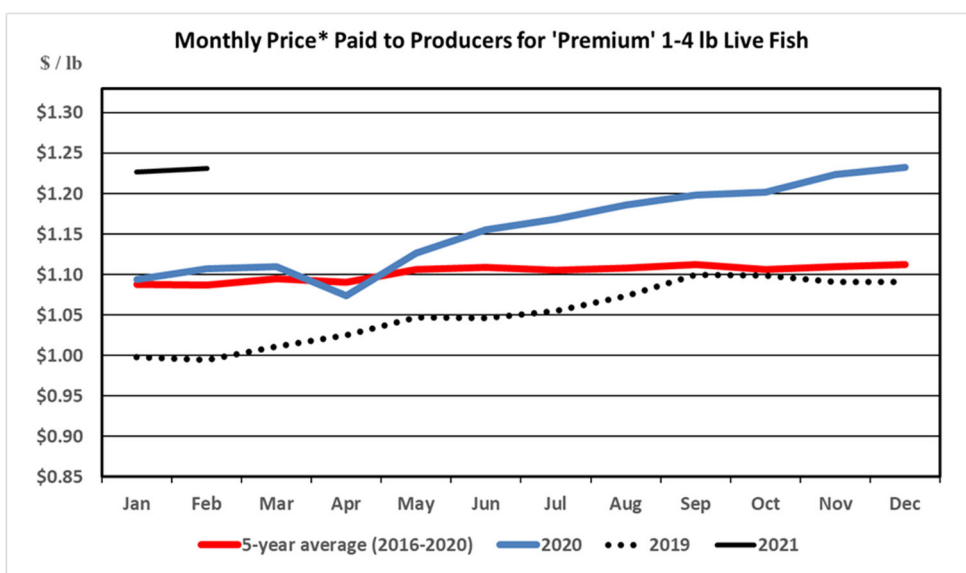

Fig. 3. Premium sized catfish (1-4 lb) price to producer, 2019, 2020, 2021, and 5-year average.
**4) The bright spot is that catfish prices are high now (Fig. 3).** The question is whether the higher fish price will offset the higher feed costs. You can do a quick estimate of whether you are making or losing money this year by: